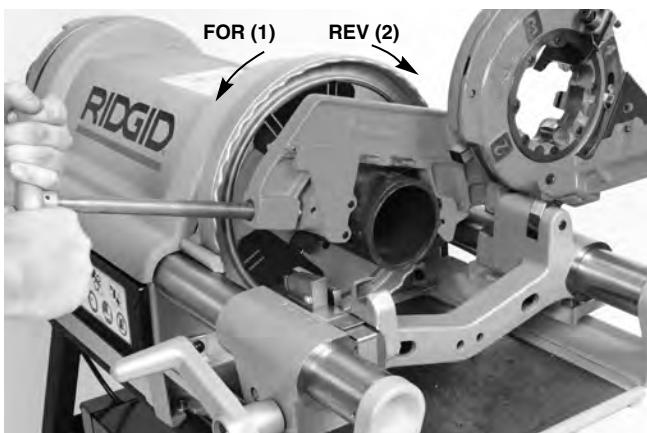

Figure 21 – Cutting Pipe with 764 Cutter/Machine Rotation
4. With both hands, grasp the pipe cutter feed handle (*Figure 21*).